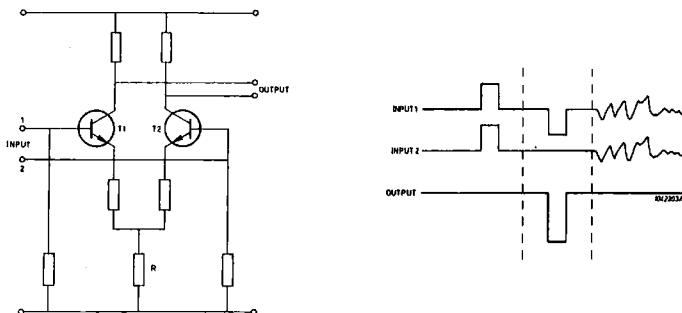

Fig. 5-4 Differential Amplifier
1.4 DIFFERENTIAL AMPLIFIER (figure 5-4)